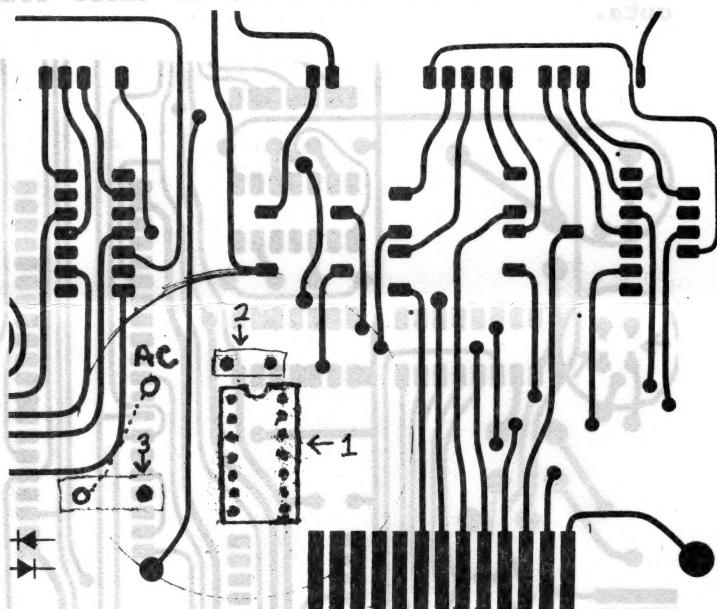

Figure 2. Part of top of PC board.
Drill 14 holes for the DIP socket. It will be located in the bare area of the board just below socket J3 near the DB-25 modem connector. See pointer number 1 on figure 2 for proper position and orientation of the socket. It is easier to drill these holes if a jig is made up in advance from a scrap piece of pre-drilled PC board or if a stick on 1:1 label is used as a visual guide.
Drill 2 holes for the bypass capacitor just above the socket just installed. The holes should be spaced either .2 or .3 inches apart depending on the lead spacing of the capacitor being used. See pointer number 2 on figure 2 for positioning of these holes.
Drill one hole for the Zener diode to the left of the new IC socket. See pointer number 3 on figure 2 for the location of the hole to be drilled. The other lead of the Zener diode uses an existing hole on the board.
Install the Zener diode in the holes in area 3 of figure 2. The anode lead should be put through the right hand hole and bent over to connect with the ground land on the back of the board. The cathode lead is soldered in the already existing hole.
g. Pin 12 of the new socket and the cathode of the Zener diode installed in area 3 of figure 2.
Take a lead from the secondary of the power transformer and connect it through a resistor to the pad marked 'AC' in figure 2. The value of resistor to be used may be calculated with the following formula: